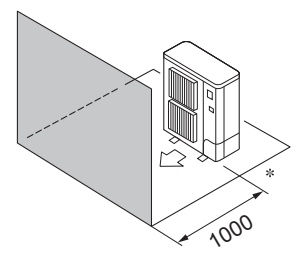

Fig. 2-6
- ④ Obstacles at front only (Fig. 2-6)